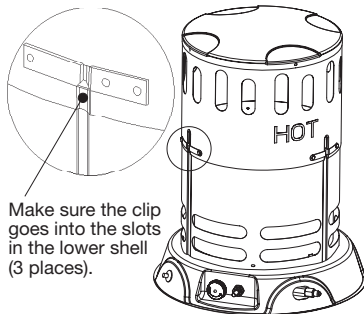

Figure 3
3. Lift outer shell until all three clips engage slots located in the lower shell. When this happens, the screw holes will line up. (See Figure 3)